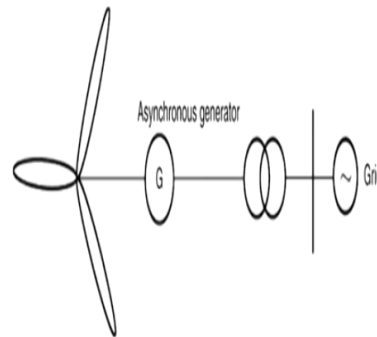

Fig.5: Wind power directly connected to grid
- Fig.5 shows the block diagram for direct connection of wind power
And figure 5 shows that the block diagram of the direct connections of the wind turbine. You got a asynchronous generator. Thereafter you know it will be generating based on the gearbox the same frequency and it will be directly synchronized to the grid.